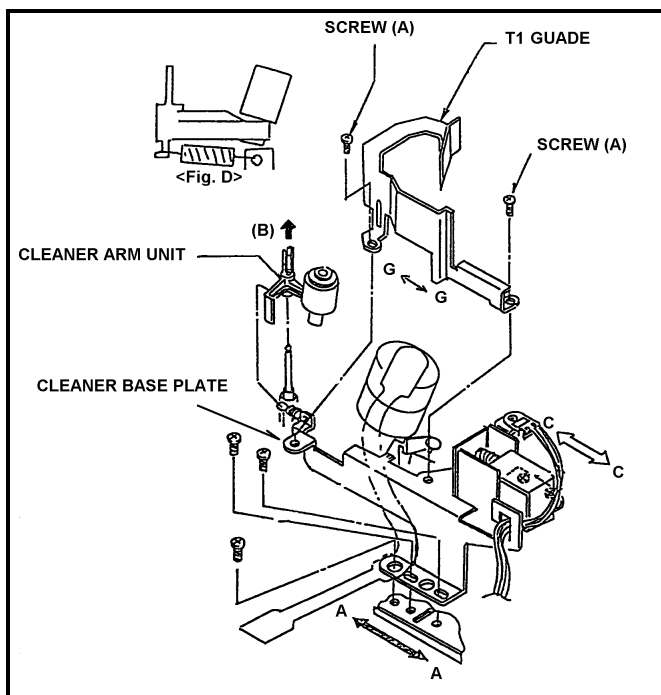

Fig. 6-1-5
1. Unscrew the **2 screws (A)** to remove the T1 Guide as shown in Figure 6-1-5.
2. Pick up the **tip portion (B)** of Cleaning Arm Unit and remove the spring from Cleaner Arm Unit. Then remove the Cleaning Arm Unit as shown in Figure 6-1-5.